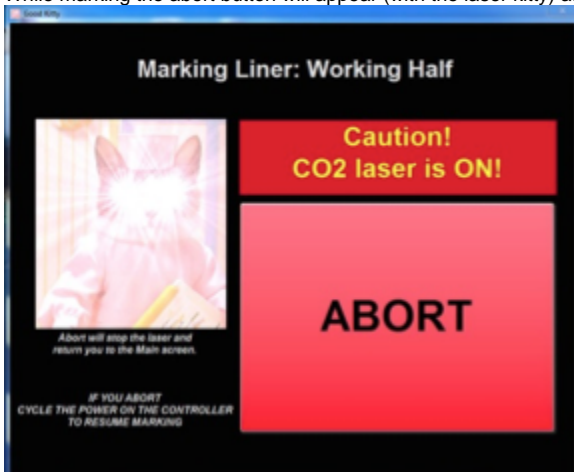

Figure 10. Marking Liner: Working Half Abort window.
5. While marking the abort button will appear (with the laser lit) as seen in Figure 10.